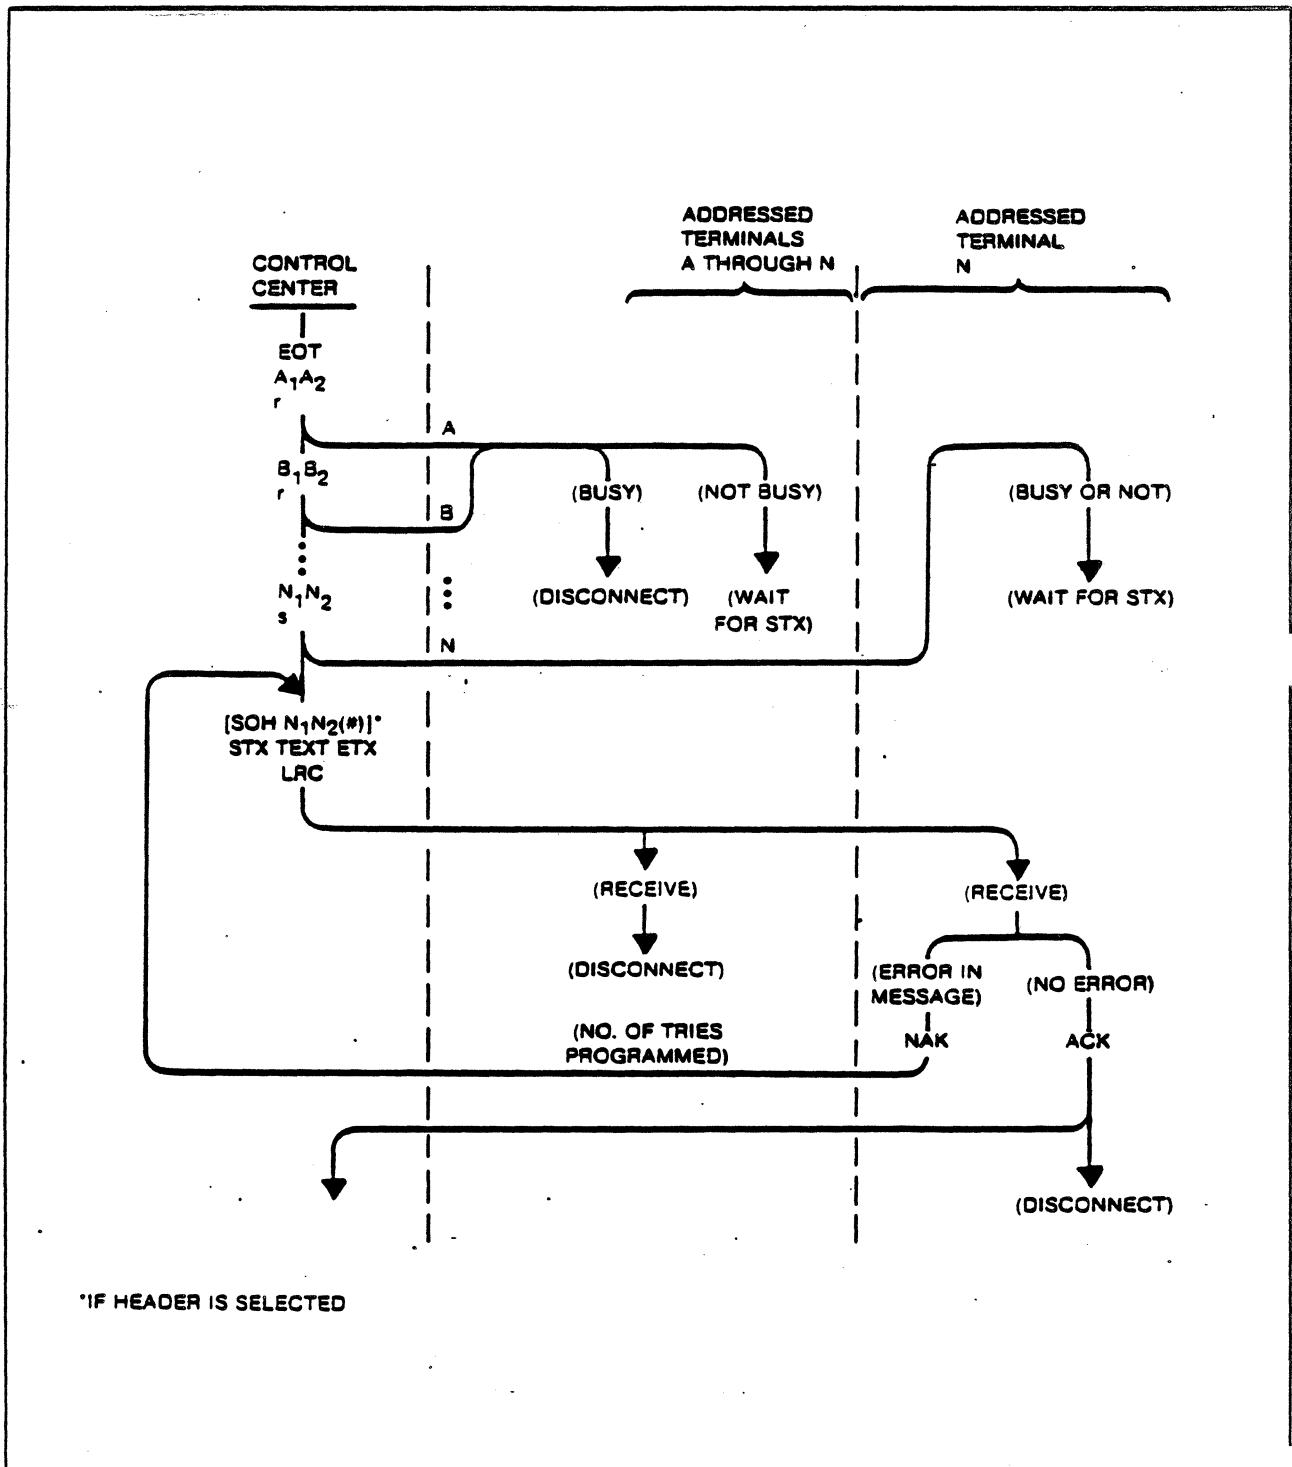

Figure 5-3. SEQUENTIAL SELECT Function Dialogue, Flow Diagram
5.1.7 SEQUENTIAL SELECT Responses (See Figure 5-3)